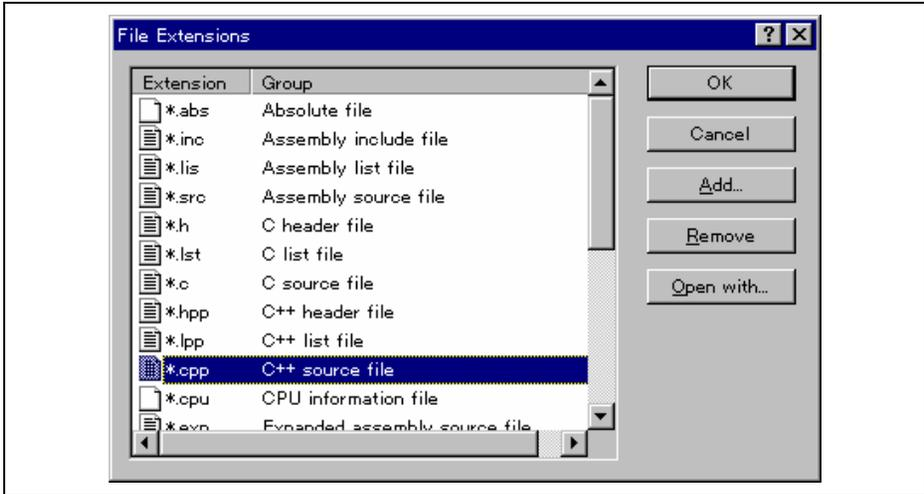
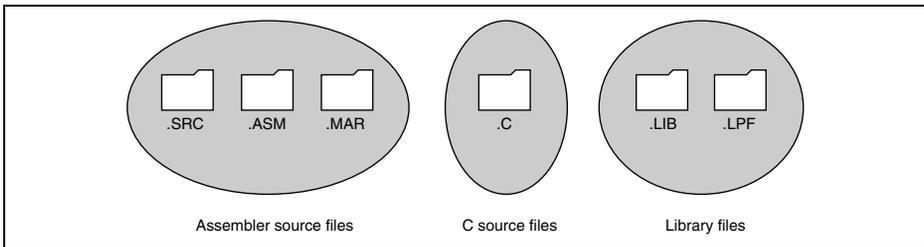

Figure 2.7: File Extensions Dialog
Figure 2.8: File Extensions and Groups
File extensions and file groups can be viewed and modified via the “File Extensions” dialog (figure 2.7). This is invoked by selecting [Project->File Extensions...]. This dialog displays all of the extensions and file groups, which are defined within the current workspace.
The “File Extensions” list shown in figure 2.7 is divided into two columns. On the left are the file extensions themselves, whilst on the right are the file groups. Many file extensions can belong to the same group. For example, assembler source files may have several extensions in a single project (e.g. .src, .asm, .mar etc) as shown in figure 2.8.
1. Select [**Project->File Extensions...**] from the menu bar. The “File Extensions” dialog will be displayed (figure 2.7).